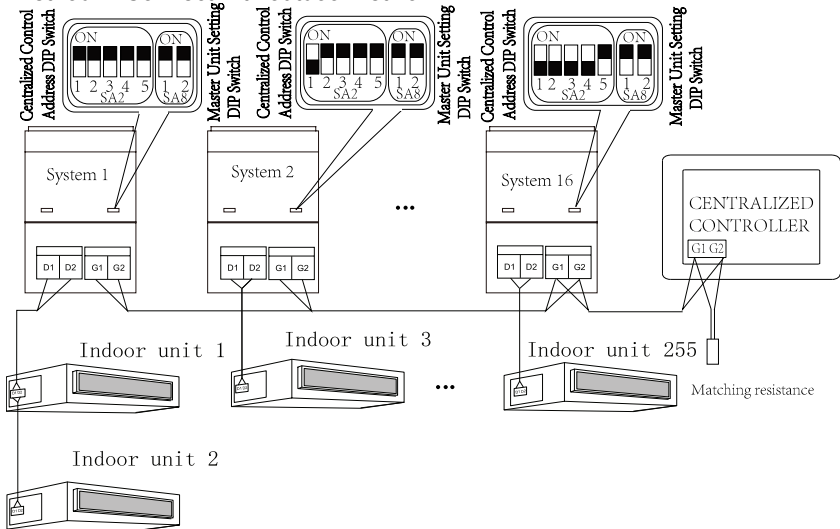

Figure 3-5 Centralized Controller Connected with Outdoor Network
- (3) If the centralized controller is to be connected with the network of outdoor units, connect according to fig.3-5. The centralized controller can only be connected with the terminal system of the outdoor network. A matching resistance needs to be added with the communication cords at the G1 and G2 ports.
- (4) The centralized control address DIP switch (SA2_Addr-CC) indicates the centralized control address required when different refrigerating systems are controlled in a centralized manner. The default factory setting is "00000".